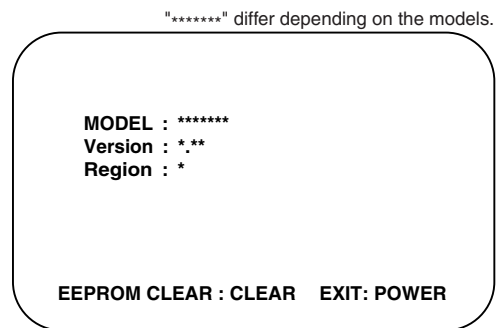

Fig. 9
9. Press [1], [2], [3], [4], and [DISPLAY] buttons on the remote control unit in that order. Fig. 9 appears on the screen.